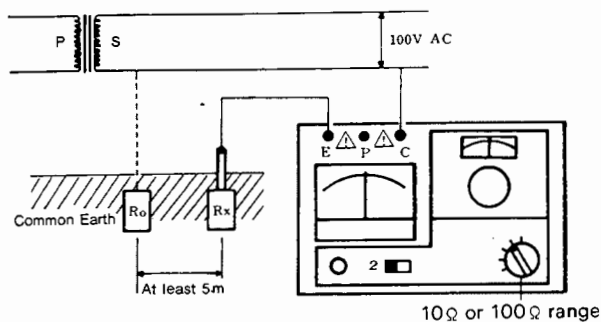

Fig. 6 Using Commercial Power Earth Side
Connect the earthing body being tested to terminal E and the earthing body used to terminal C, as shown in the diagrams, Figs. 6, 7.
- \*Before connecting to the earth side of a commercial power line as shown in Fig. 6, be sure to confirm the earth side. Connecting the C terminal to the hot side of the commercial power line may damage the tester, since it does not incorporate any protection circuit.